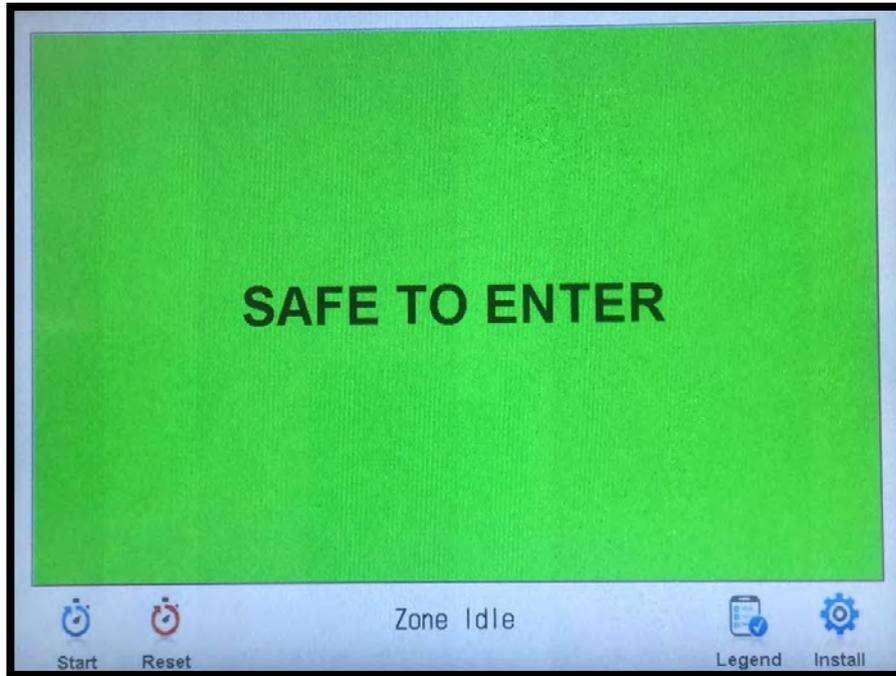

FIGURE 9
- 4.3.12 Once the Touchscreen Controller has returned to the green “SAFE TO ENTER” screen AND the air in the treatment area is clear, it is safe to resume normal operation and habitation of the treatment area (Figure 9).